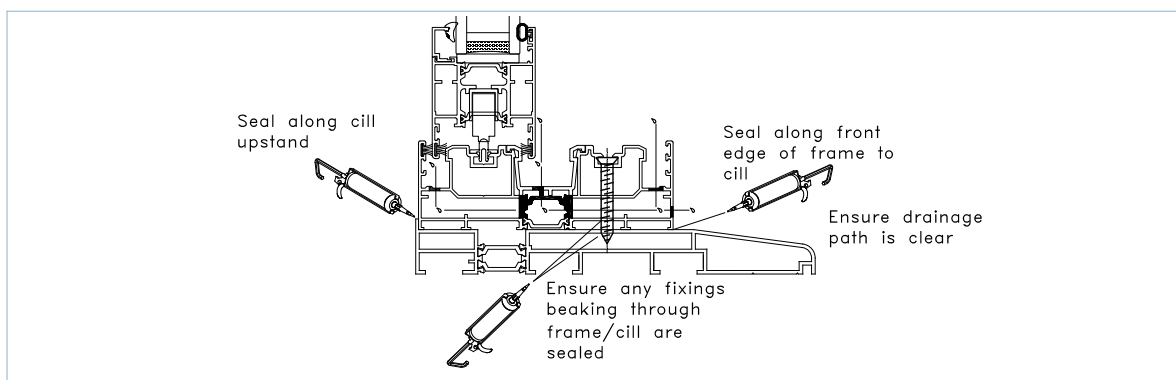

FIG 9a
5. Using suitable frame fixings, secure the bottom track and both jambs into position. If fixing the track to a cill, ensure any holes that break through the bottom of the frame and into the cill are filled with silicone before being fixed (FIG 9A)